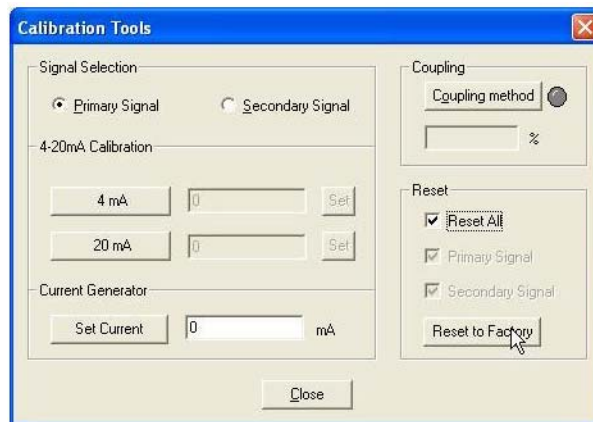

Figure 241 Resetting to Factory
2. Click **Reset to Factory** (Figure 241).